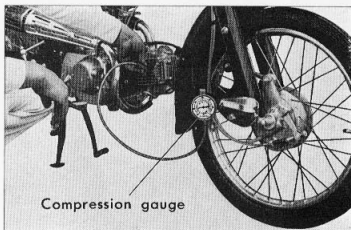

Figure 6-1. Measuring compression pressure
- Insert the end of the compression gauge into the spark plug hole and hold firmly to prevent pressure from leaking. (Fig. 6-1)